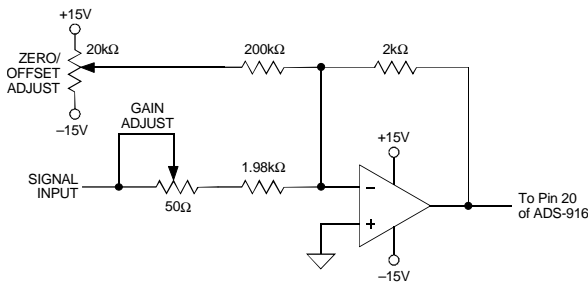

Figure 2. ADS-916 Calibration Circuit
Bypass all power supplies and the REFERENCE OUTPUT (pin 21) to ground with 4.7µF tantalum capacitors in parallel with 0.1µF ceramic capacitors. Locate the bypass capacitors as close to the unit as possible. If the user-installed offset and gain adjusting circuit shown in Figure 2 is used, also locate it as close to the ADS-916 as possible.
- initial offset and gain errors can be reduced to zero using the input circuit of Figure 2. When using this circuit, or any similar offset and gain-calibration hardware, make adjustments following warmup. To avoid interaction, always adjust offset before gain.
(Refer to Figures 2 and 3)
Any offset and/or gain calibration procedures should not be implemented until devices are fully warmed up. To avoid interaction, offset must be adjusted before gain. The ranges of adjustment for the circuit of Figure 2 are guaranteed to compensate for the ADS-916's initial accuracy errors and may not be able to compensate for additional system errors.
All fixed resistors in Figure 2 should be metal-film types, and multturn potentiometers should have TCR's of 100ppm/°C or less to minimize drift with temperature.